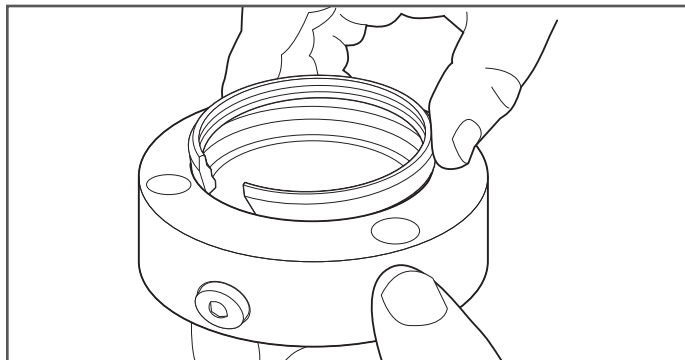

Figure 9-7
7. Insert jacket lock into the middle section of DoubleTrac® fitting (Figure 9-7).